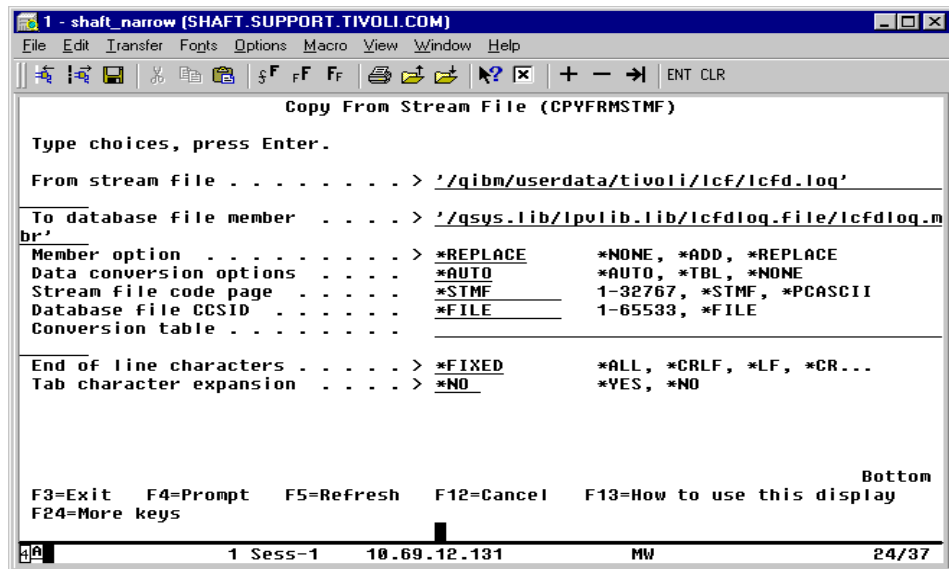

Figure 38. Copy From Stream File (lcfd.log to LCFDLOG)
3. Issue the Copy From Stream File (CPYFRMSTRMF) command as shown in Figure 38 on page 111.